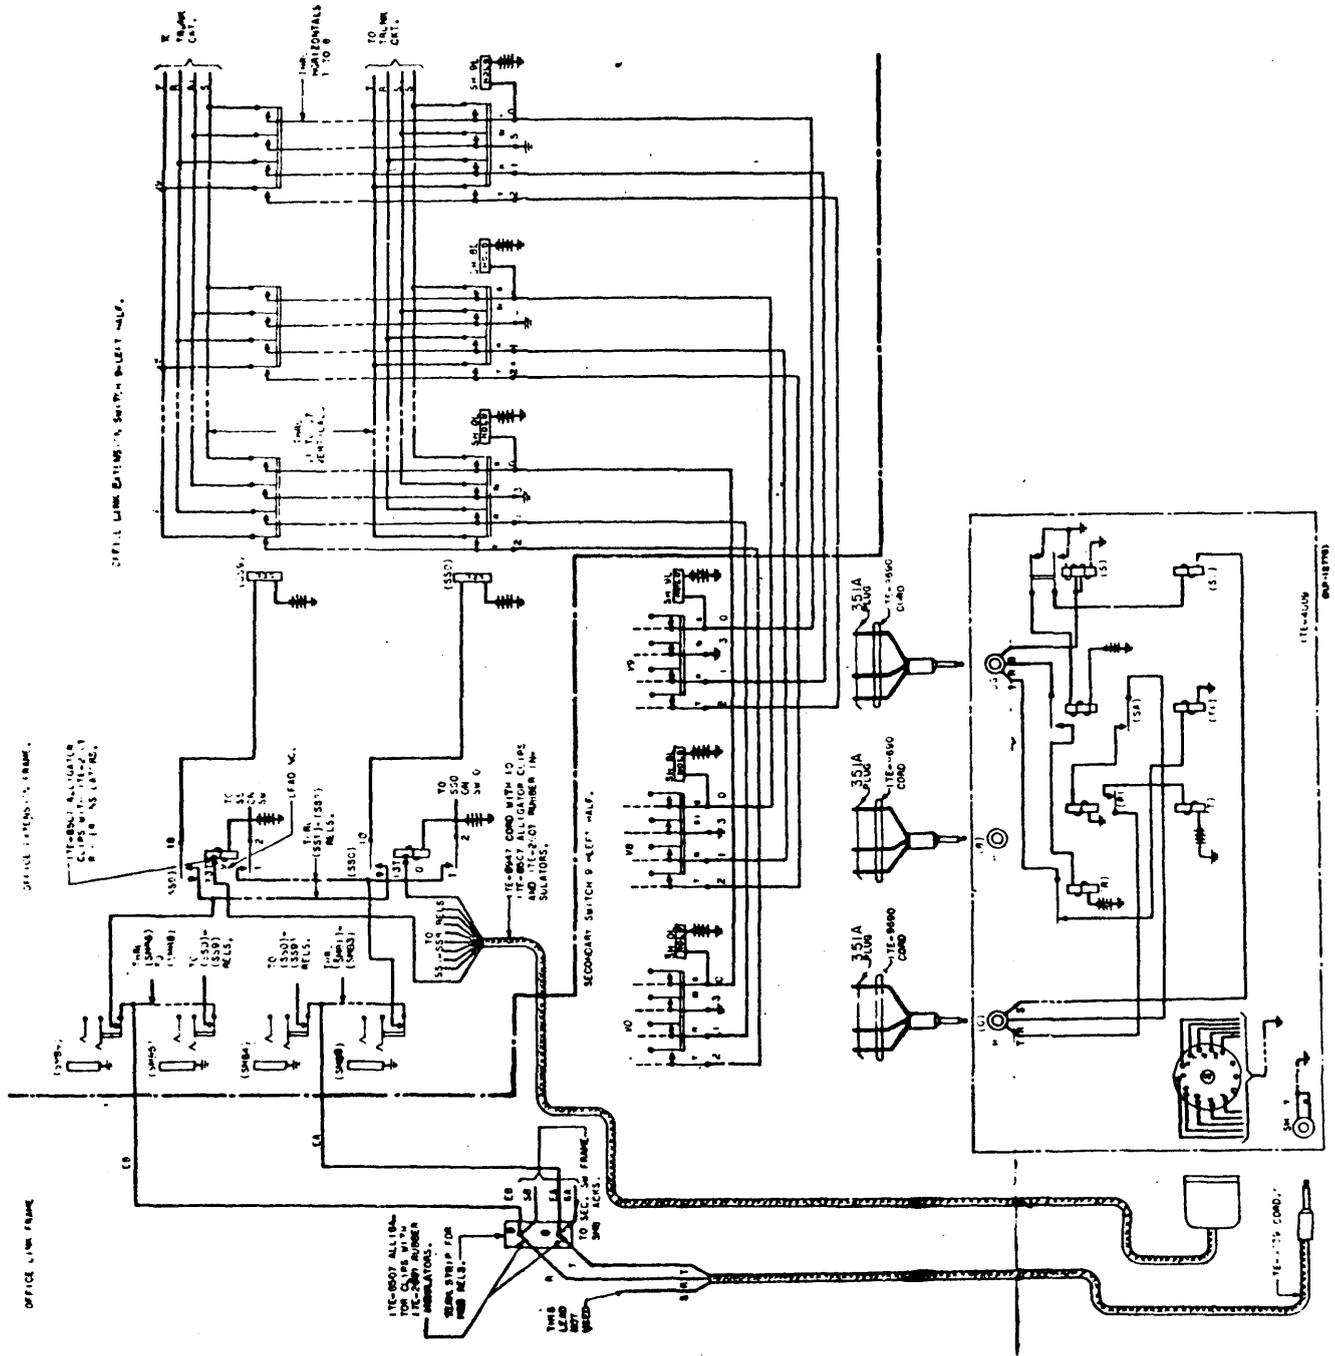
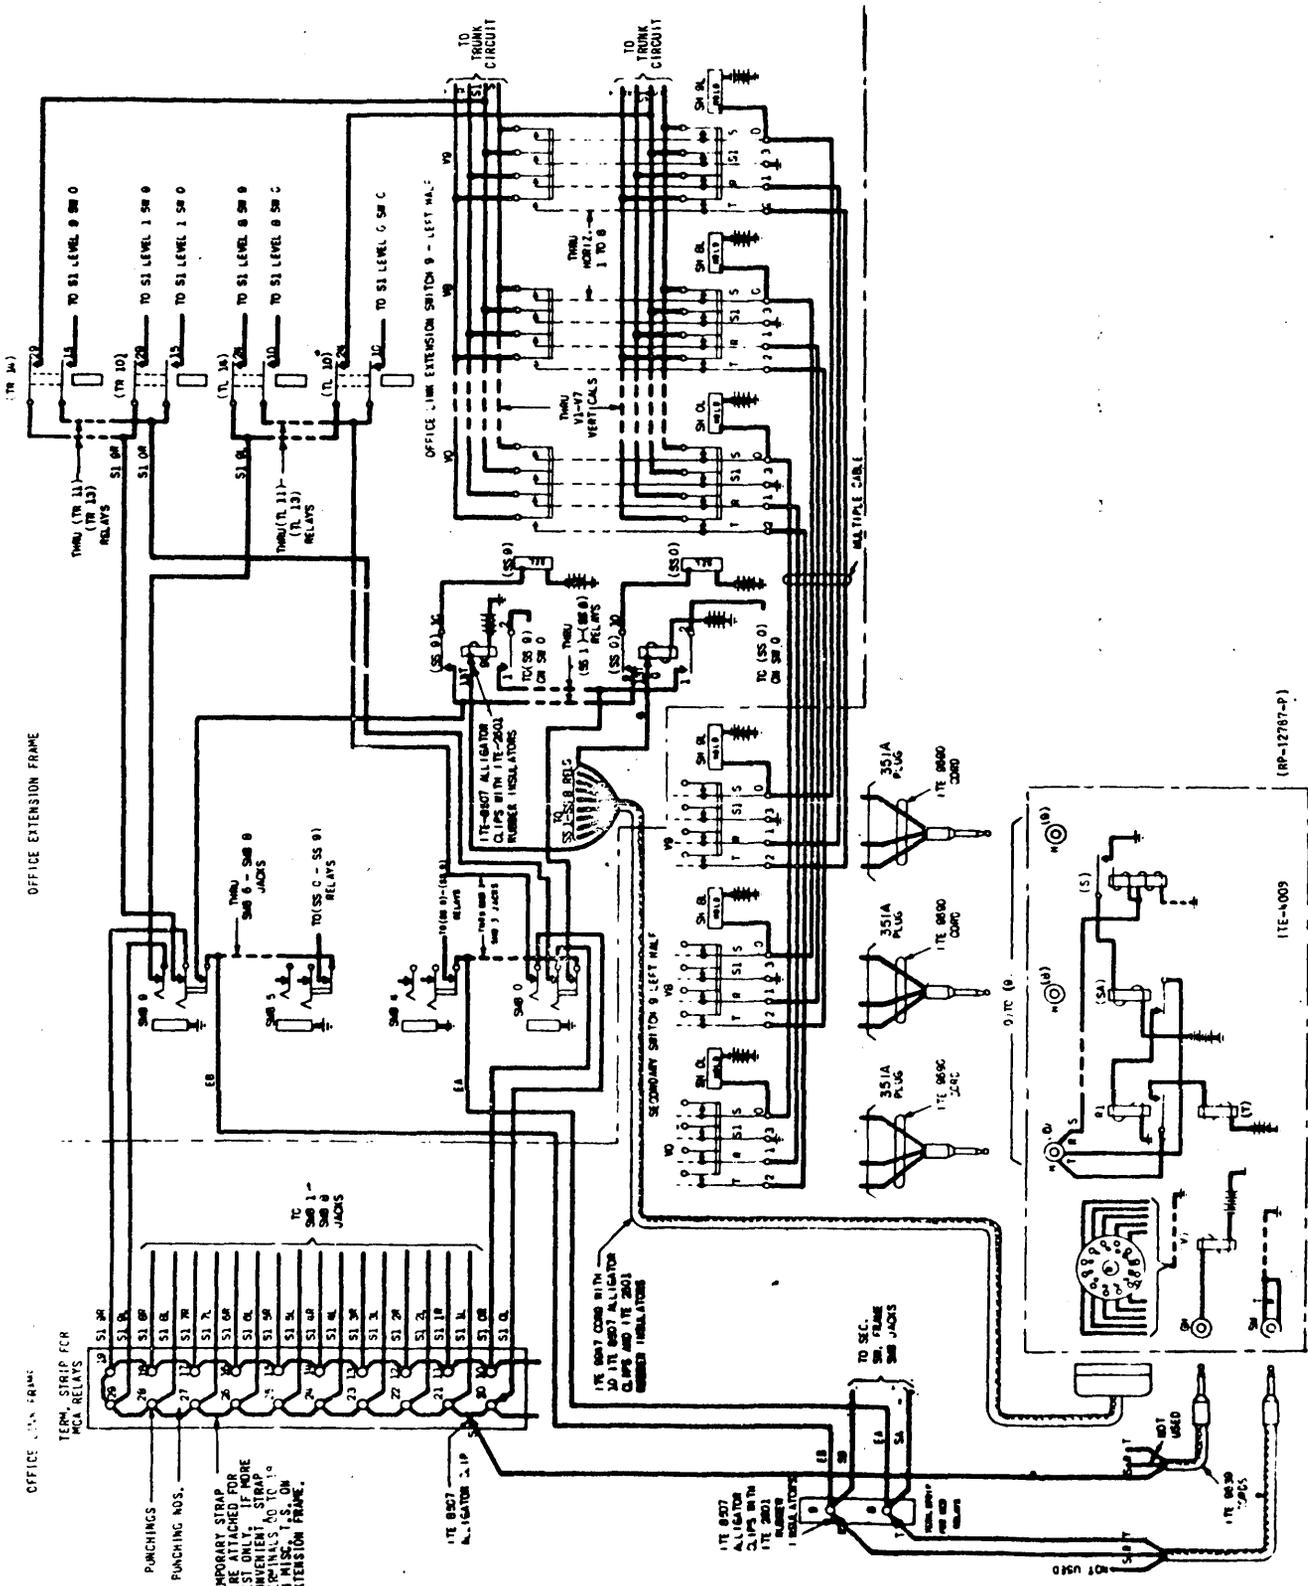

FIG. 8 SETUP FOR CROSSPOINT TEST, OFFICE LINK EXTENSION FRAME SWITCHES T.R. & S LEADS ONLY
FIG. 7 SETUP FOR TEST OF S1 CROSSPOINTS ON OFFICE EXTENSION FRAME SWITCHES
- 11.31 Setup for Test (See Figure 7)
- 11.311 When the crosspoint test of the S1 leads is completed on a secondary half switch, change the test setup of Paragraph 11.21 and Figure 6 to conform to Figure 7 by making the following changes:
- (b) Connect the leads 0-9 of another ITE-9947 cord to the 13 top contact (ground winding terminal) of relays (SS) 0-9 on the extension frame under test. Insert the receptacle plug of this cord into the S receptacle of the test set.
- 11.41 Setup for Test (See Figure 8)
- 11.411 When the crosspoint test of the S1 leads is completed on an office extension frame change the test setup of Paragraph 11.31 and Figure 7 to conform to Figure 8 by making the following changes: